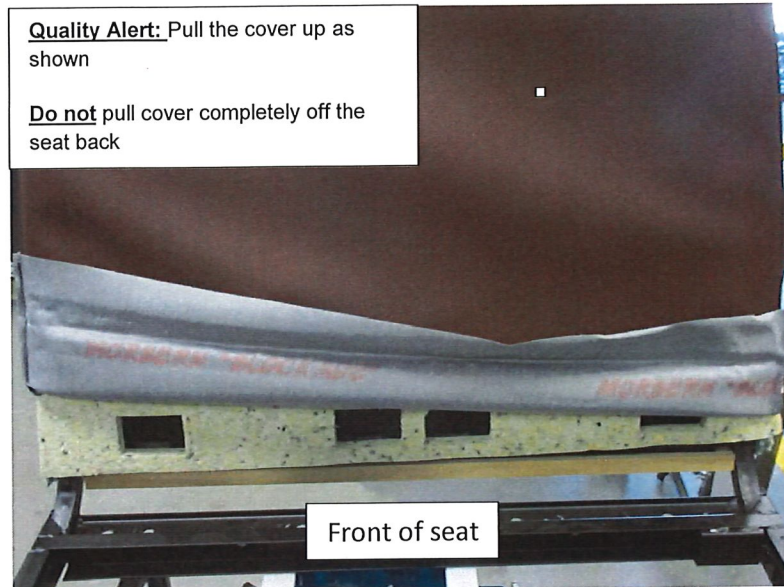

Figure 4: Pulling foam cushion and vinyl cover up (Front of seat)
9. Pull vinyl cover and seat cushion up on the back of the seat **Figure 4**